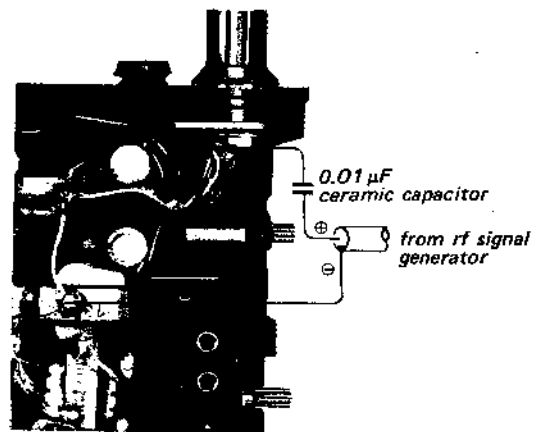

Fig. 3-3. FM/VHF WB rf signal generator coupling for i-f alignment, frequency coverage and tracking adjustment
- FM rf signal generator coupling: Direct connection to telescopic antenna solder lug, see Fig. 3-3.